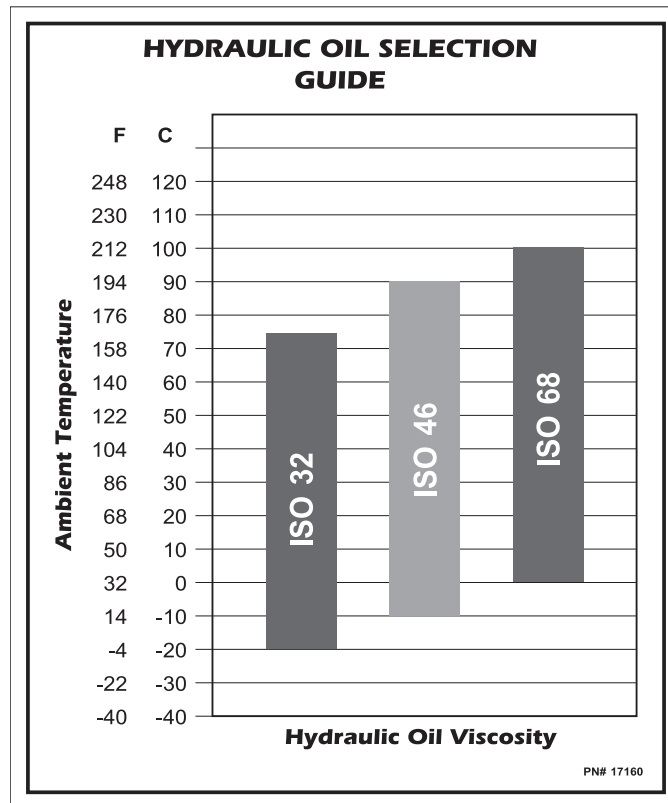

Figure 11 Hydraulic Oil Selection Guide
2. If ambient temperature operating conditions deviate beyond the minimum and maximum ranges identified for ISO 68 in the chart above (Figure 11), use the hydraulic oil that does fall in the appropriate ambient temperature range.